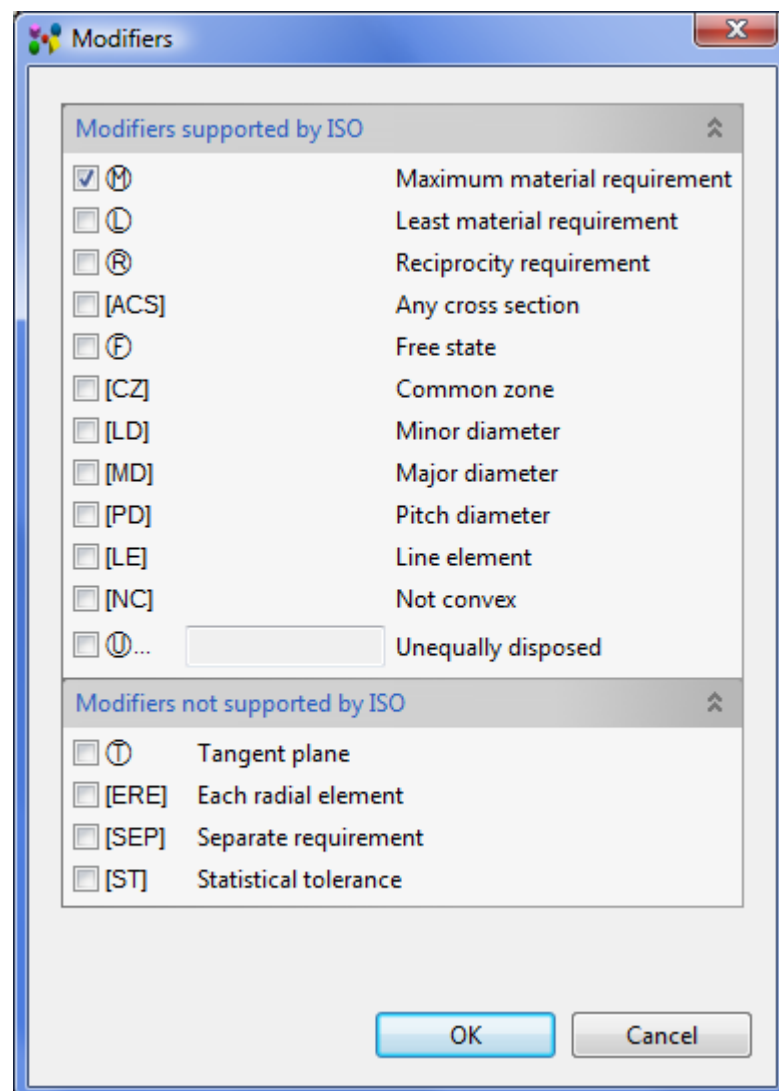

Figure 4. Modifiers dialogue window with selected Maximum material requirement modifier
- Button next to the text field - select modifier (boundaries of a perfect form). Press the button. The **Modifiers** dialogue window appears on the screen (see Figure 4). The dialogue window contains two sections **Modifiers supported by ISO** and **Modifiers not supported by ISO**. You can collapse or expand those sections by using double arrows next to the section label or just by clicking on the label. To select an applicable modifiers, set a check mark in front of a needed modifier. **Note.** In some cases, i.e. *Modifiers supported by ISO*, *Unequally disposed* modifier, additionally the value should be specified in the text field. The *Unequally disposed* modifier can be applied to the profile tolerance (both - surface and line) only.